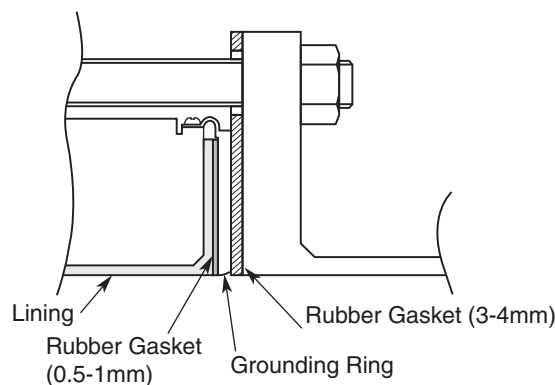

Figure 19. Installation on PVC Pipe with 316 ss Grounding Ring (with Rubber Gasket)
If you install the flowtube at a lower torque level using rubber gaskets, you must use gaskets with the internal and external diameters shown in Table 4. and Table 5. for the respective pipe size. Depending on the grounding ring material, two gaskets of different thicknesses may be required. (See Figures 19 and 22.)
- Use this method to install the flowtube using a low fastening torque and rubber gaskets. Remove the grounding ring from the flowtube, insert a rubber gasket (0.5 to 1.0 mm thick), then reinsert the grounding ring on top of the rubber gasket. With the rubber gasket (3 to 4 mm) in the position shown in Figure 19, attach the flowtube to the pipe. Fasten the bolts with a torque that provides a leakproof joint. In this case, the two kinds of rubber gaskets must be made of the same material.